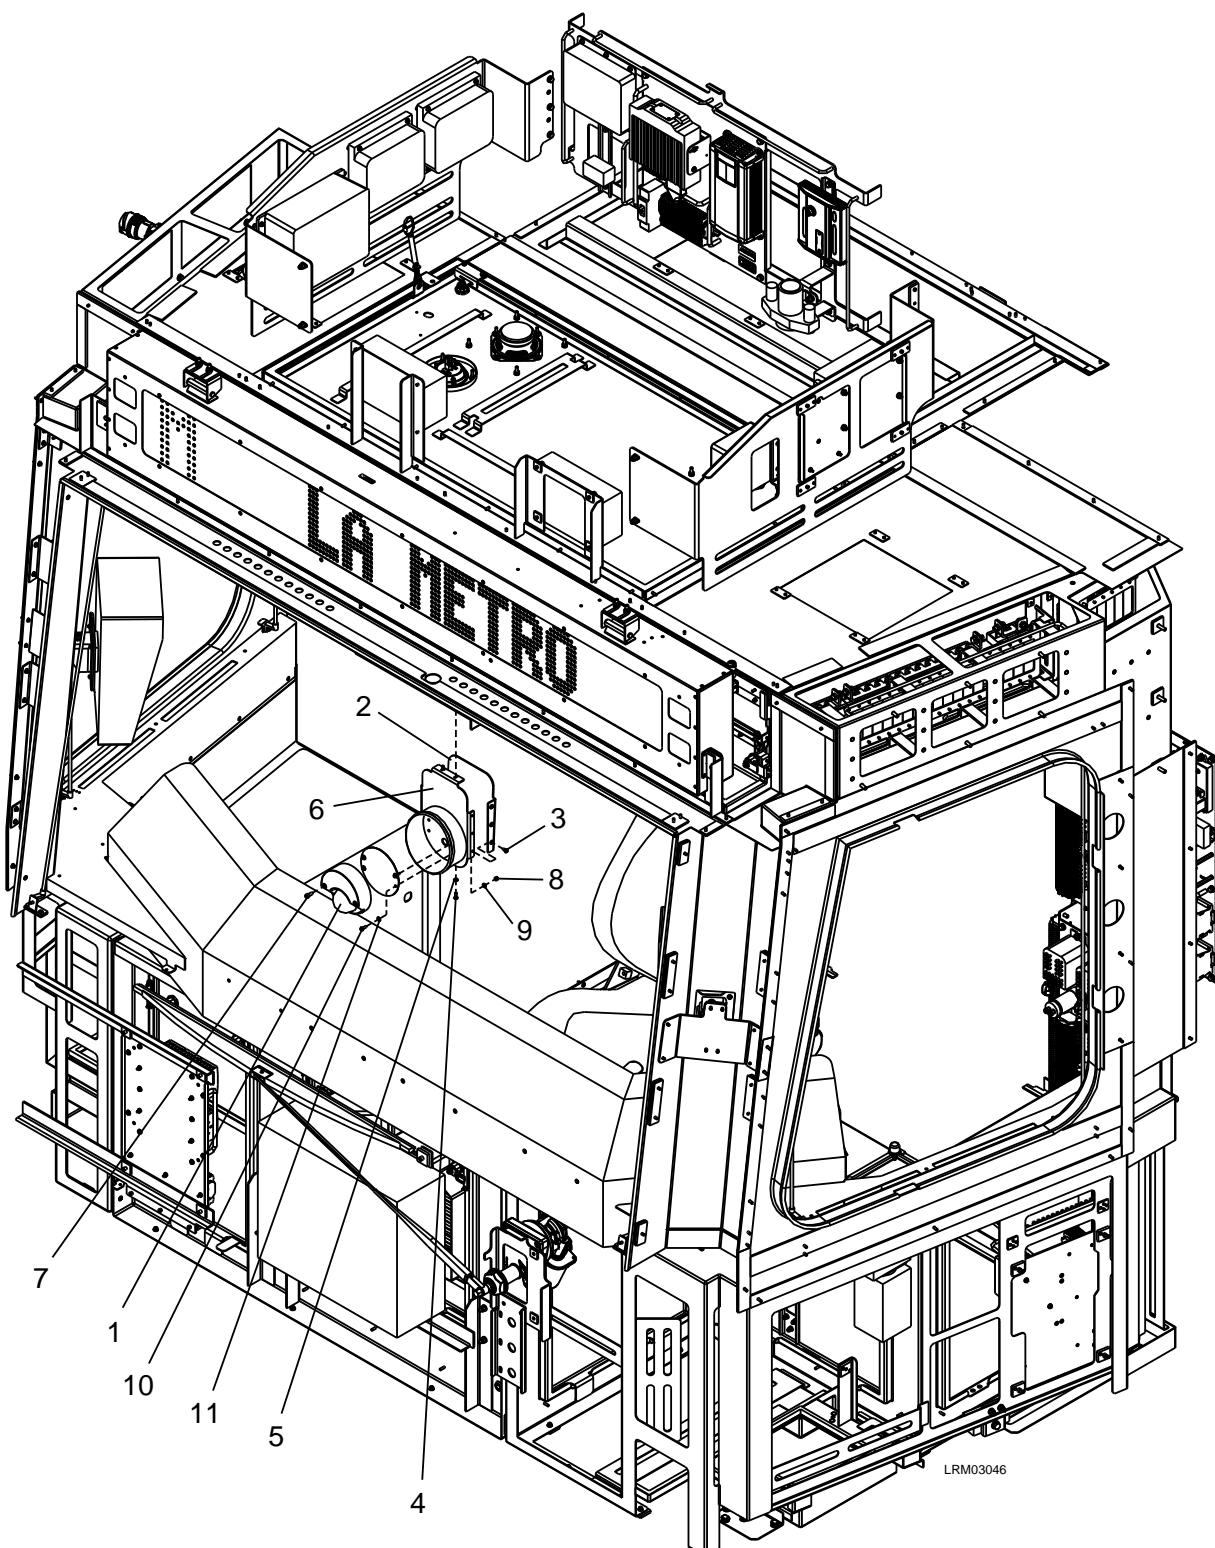

Figure 7-54: Forward View Camera
1. Remove six M4 x 10 screws (3) from cover (2). See Figure 7-54.
2. Remove the cover (2).